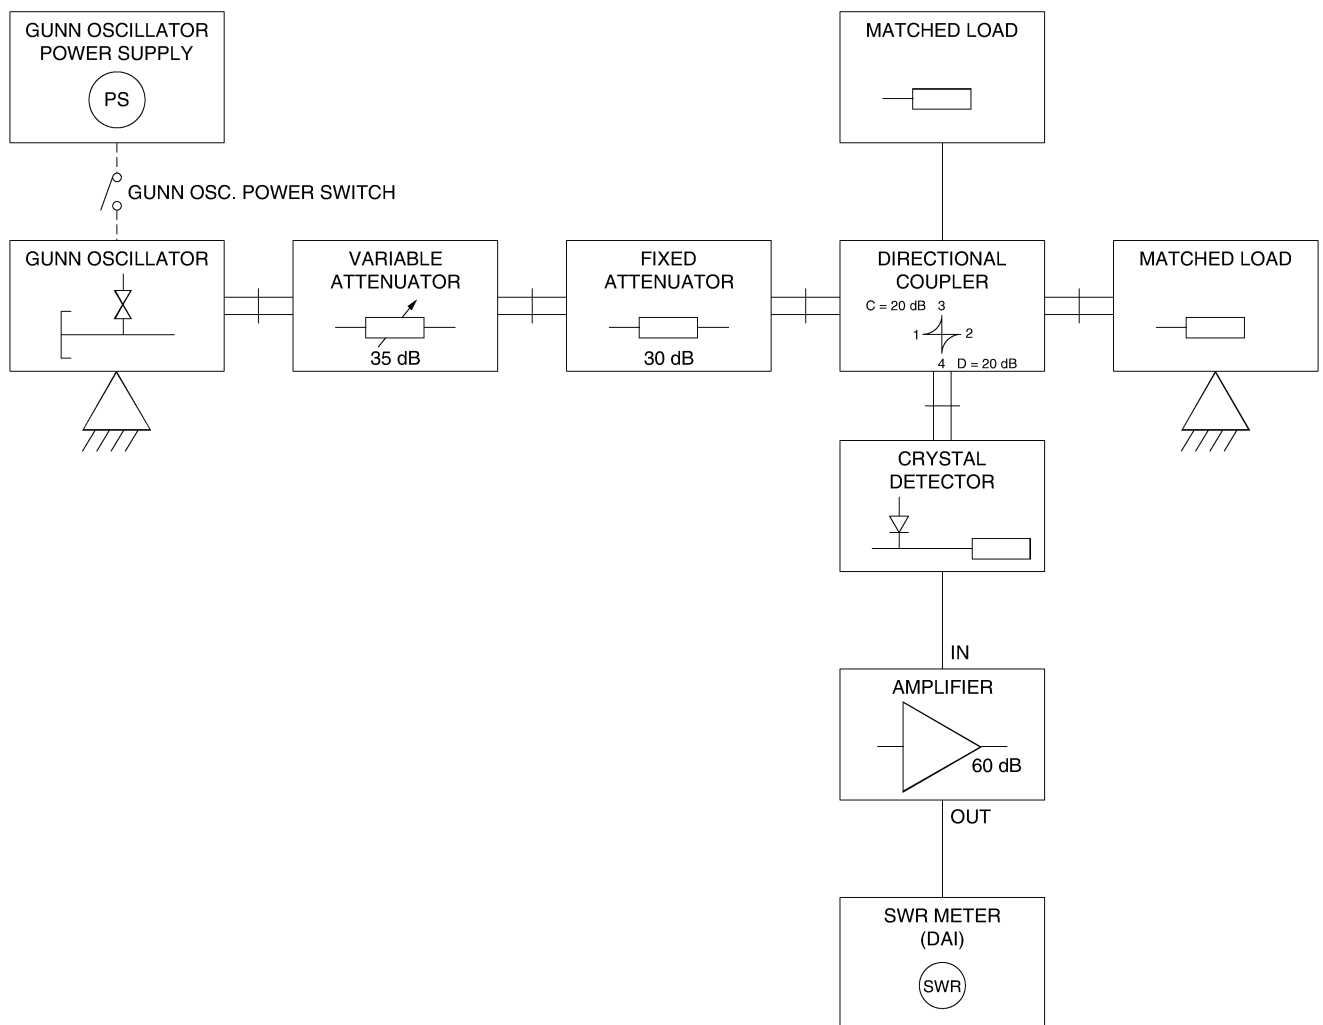

Figure 21. Modified microwave circuit for the measurement of the directivity.
- ☐ 19. **Taking care not to modify the Variable Attenuator adjustment**, modify your microwave circuit in order to obtain the circuit shown in Figure 21.